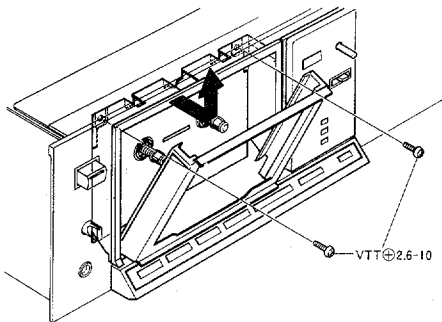

Fig. 2
- 1) Remove the two cassette plate screws and pull the blinder in the direction of the arrow (See Figure 2.)